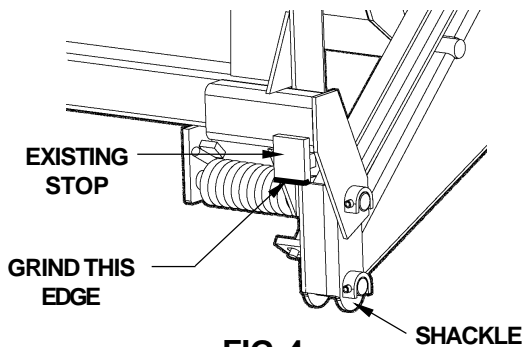

FIG. 4
5. If the outboard edge of the flipover will not reach level ground, grind off metal in 1/16" increments from the existing stop on the Platform (roadside and curbside) as shown in **FIG. 4**. Each 1/16" ground off the existing stop lowers the outboard edge of the flipover as shown in **TABLE 2**.